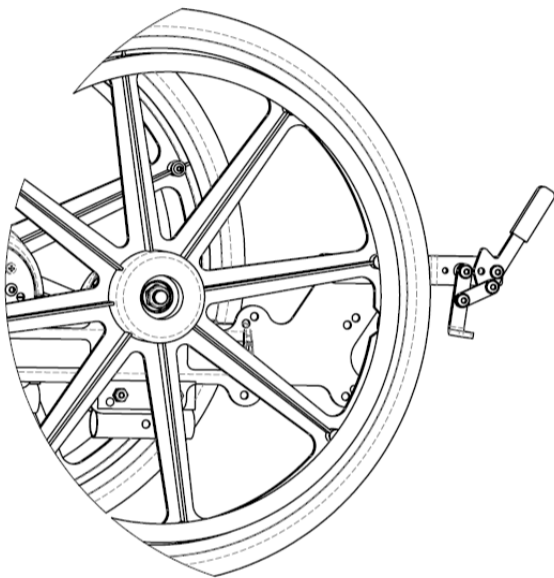

Figure 16.38: Attendant Wheel Lock (Push to Lock)
3. To engage the attendant wheel lock (see Figure 16.38), pull the lever towards the wheel until it locks into place.